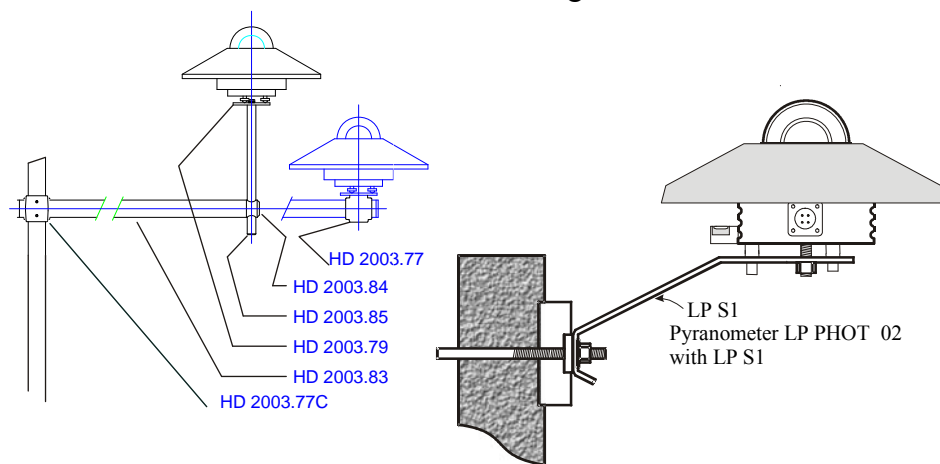

Fig. 5
- LP S1 mounting kit (fig. 5) is supplied upon demand as an accessory, and allows for an easy mounting of the instrument on a mast. The mast maximum diameter shall not exceed 50 mm. The operator will check that the mast height does not exceed the luxmeter plane, in order to avoid measurement errors due to any reflection or shadow of the mast itself. To fix the luxmeter to the mounting bracket, remove the shade disk by loosening the three screws, then fix the luxmeter to the bracket and mount the white shade disk again.